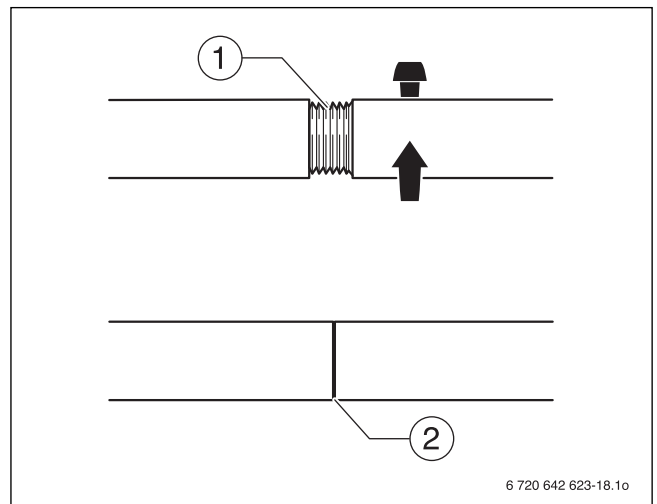

Fig. 16 Boiler assembly tool 2.3
- ▶ Always check the tie rods before each use and retighten as necessary. The tie rod is correctly positioned if it is fully inserted and no threads are showing (→ Fig. 16, [2]).
- ▶ Always keep the threads (→ Fig. 16, [1]) clean. Dirty threads may damage the assembly tool during compression.